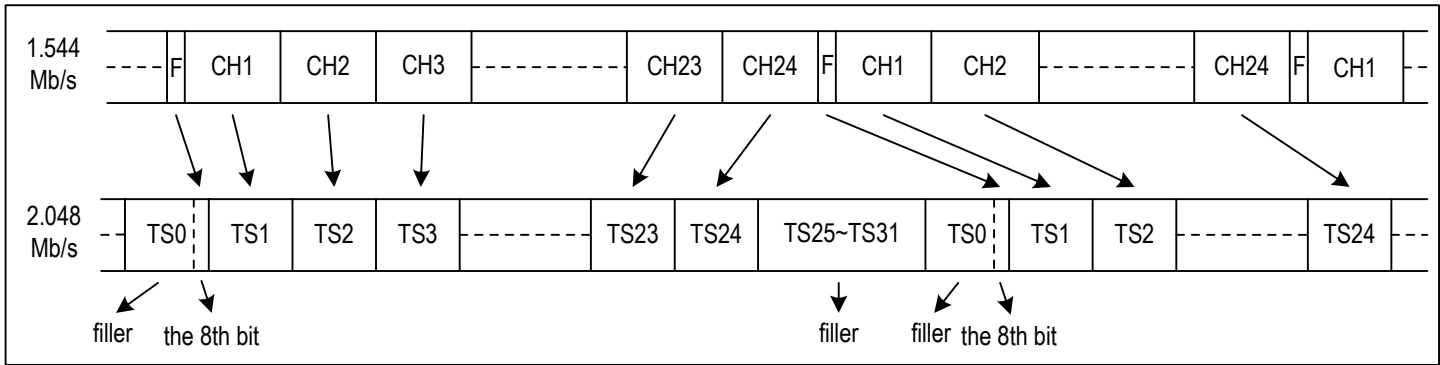

**Figure 20. T1/J1 To E1 Format Mapping - Continuous Channels Mode**
3. T1/J1 Mode E1 Rate per Continuous CHs (refer to Figure 20): Channel 1 to Channel 24 of Frame N from the device are converted into TS1 to TS24 of Frame N on the system side. The F-bit of Frame N from the device is converted into the 8th bit of Frame N on the system side. The first 7 bits and TS25 to TS31 on the system side are all filled with '0's and they are meaningless.